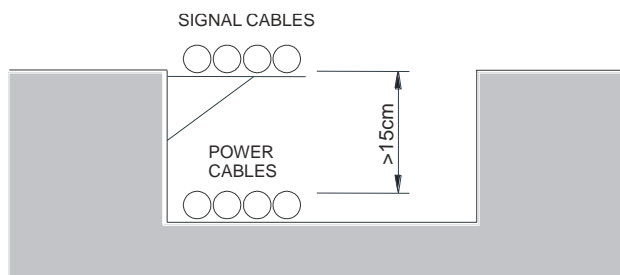

Fig. 9.8 – Cable Arrangements on the Tray
- 2) Predict a tolerance between the power cables and signal cables, using a cable tray, as illustrated in figures 9.8 and 9.9.